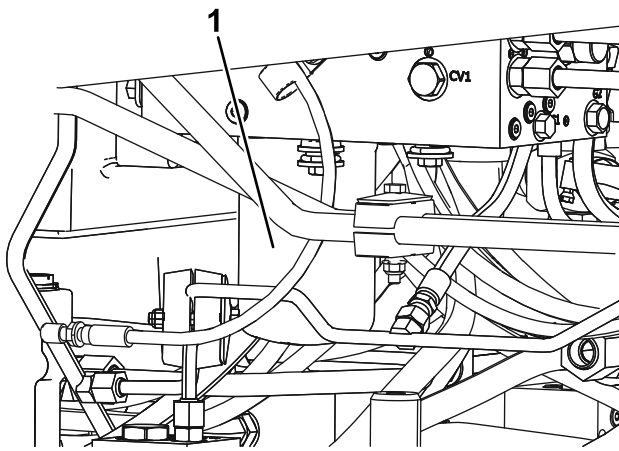

Figure 100
5. Repeat the procedure on other filter (Figure 100).